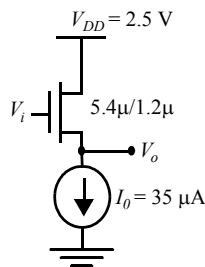

Figure 0.6 Source-follower level converter.
10. [M, None, 3.3.2] The circuit of Figure 0.6 is known as a *source-follower* configuration. It achieves a DC level shift between the input and output. The value of this shift is determined by the current I_0 . Assume $\gamma = 0.4$, $2|\phi_f| = 0.6$ V, $V_{T0} = 0.43$ V, $k' = 115 \mu\text{A}/\text{V}^2$, and $\lambda = 0$. The NMOS device has $W/L = 5.4\mu/1.2\mu$ such that the short channel effects are not observed.